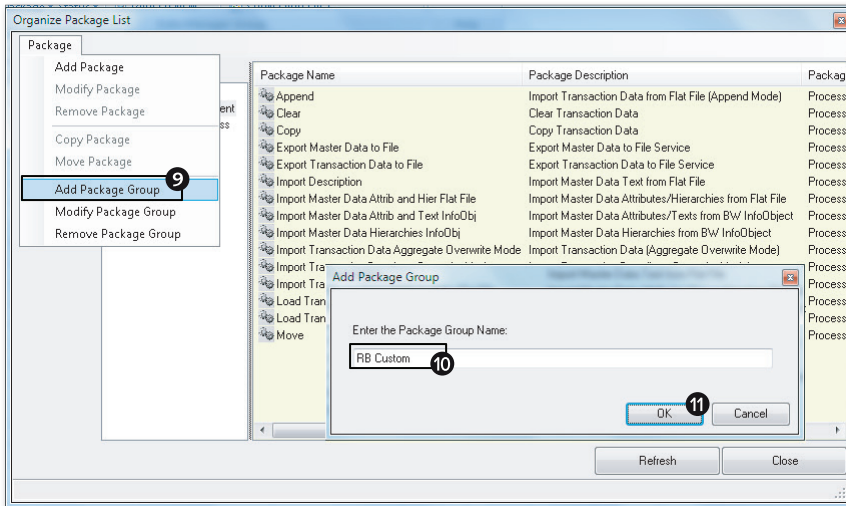

Figure 6.9 Creating Logic Script to Revalue Plan Data—Part F
8. This will open a new dialog box where you can maintain and create new package groups and Data Manager packages. First we'll create a new package group called RB CUSTOM. Click on the ADD PACKAGE GROUP option under the PACKAGE menu (Figure 6.9, 9). In the ADD PACKAGE GROUP dialog box, enter "RB CUSTOM", and click on OK (Figure 6.9, 10 and 11).